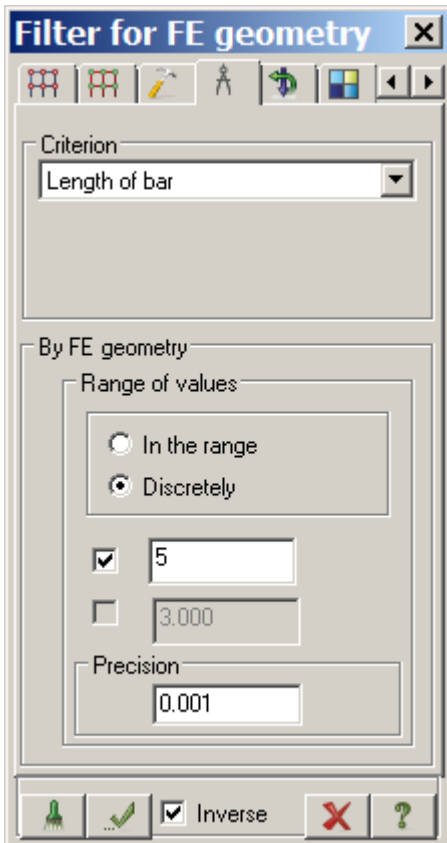

Figure 4.5 PolyFilter dialog box (Filter for FE geometry)
- ⇒ In the **PolyFilter** dialog box, select the **Filter for FE geometry** tab (the fourth tab) (see Fig.4.5) and specify the following data: